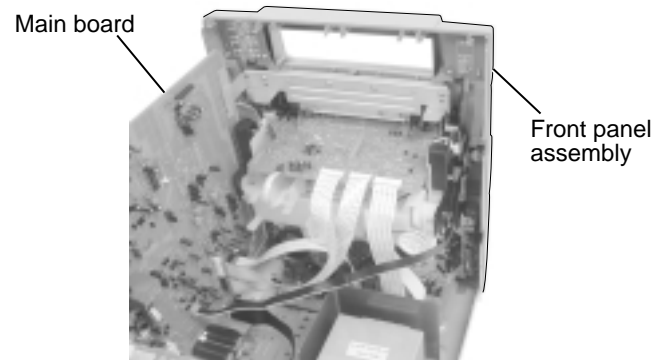

Fig.8
■ Removing the front panel assembly (See Fig.8 to 12)